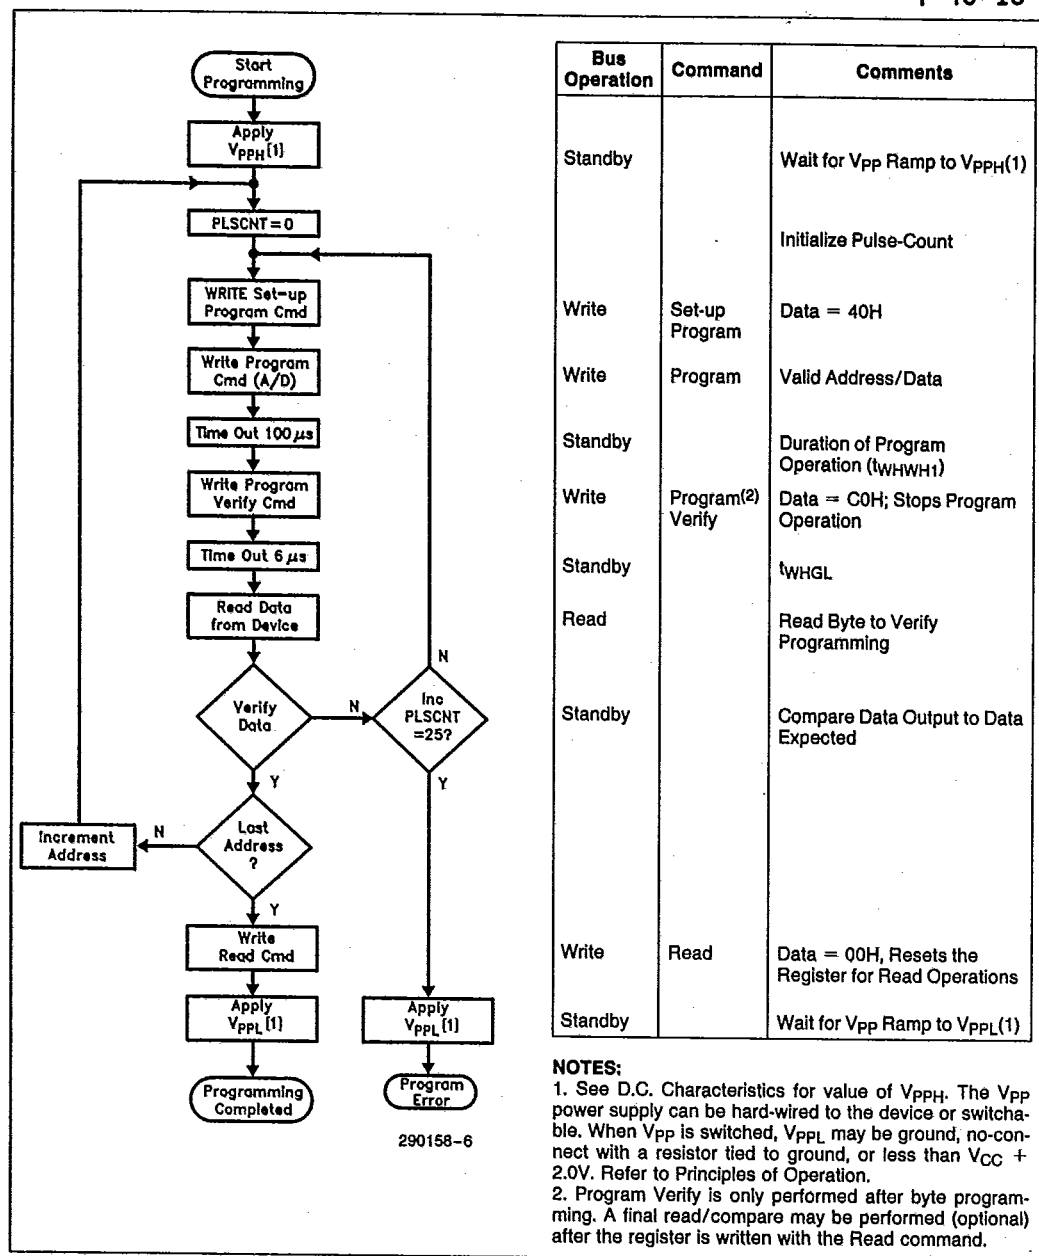

Figure 7. 28F256 Quick-Pulse Programming™ Algorithm
The 28F256 has two control functions, both of which must be logically active, to obtain data at the outputs. Chip-Enable (CE) is the power control and should be used for device selection. Output-Enable (OE) is the output control and should be used to gate data from the output pins, independent of device selection. Figure 7 illustrates read timing waveforms.
The 28F256 applies an internally-generated margin voltage to the byte. A microprocessor read cycle outputs the data. A successful comparison between the programmed byte and true data means that the byte is successfully programmed. Programming then proceeds to the next desired byte location. Figure 7, the 28F256 Quick-Pulse Programming™ Algorithm, illustrates how commands are combined with bus operations to perform byte programming. Refer to A.C. Programming Characteristics and Waveforms for specific timing parameters.
The Quick-Pulse Programming algorithm uses programming operations of 100  $\mu$ s duration. Each operation is followed by a byte verification to determine when the addressed byte has been successfully programmed. The algorithm allows for up to 25 programming operations per byte, although most bytes verify on the first or second operation. The entire sequence of programming and byte verification is performed with Vpp at high voltage. Figure 7 illustrates the Quick-Pulse Programming algorithm.